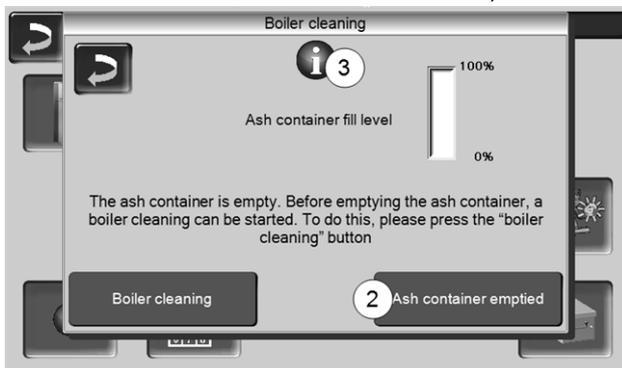

Abb. 2-55
- ▶ Press the *boiler cleaning* button > Abb. 2-55